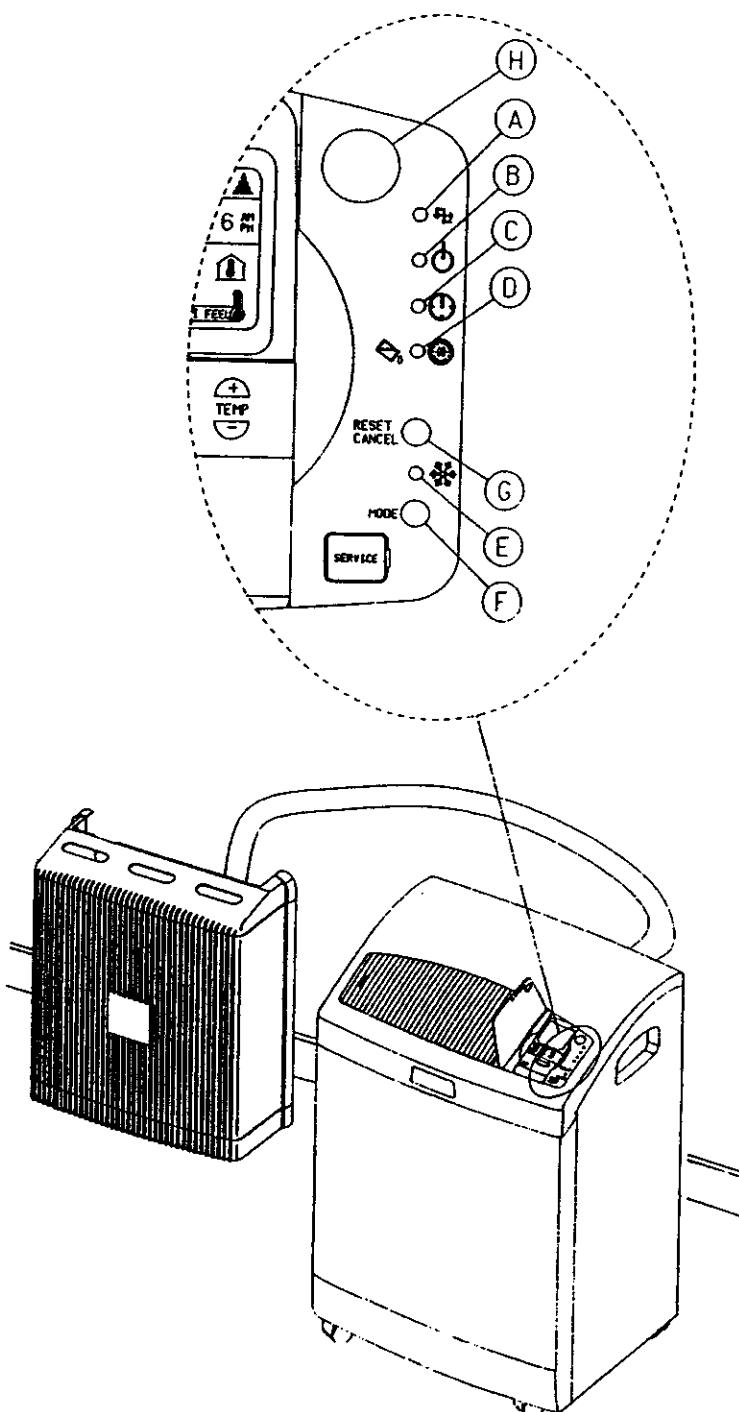

Figure 13. On-unit Indicators and Controls
ON-UNIT INDICATORS AND CONTROLS (Refer to Figure 13)
□ OPERATION PROCEDURE (Refer to Figure 13 & 14)